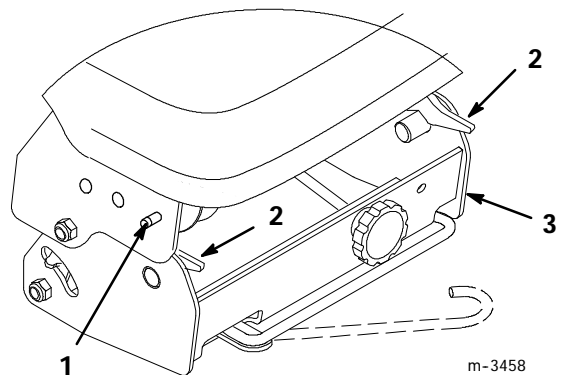

Figure 23
11. If you wish to remove the pulley box, push the latch release buttons on the front Attach-A-Matic™ (Fig. 23) and raise the latch levers to open the latches holding the pulley box. Remove the pulley box.